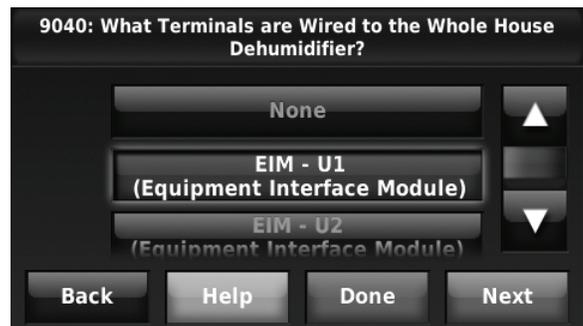

Fig. 229.
- Select the terminals wired to the Whole House Dehumidifier. See Fig. 229.